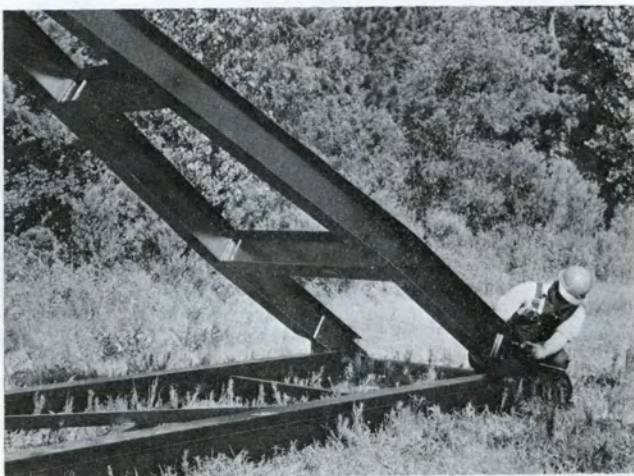

Figure 10
6. Figure 10 - Assemble Samson Post Brace